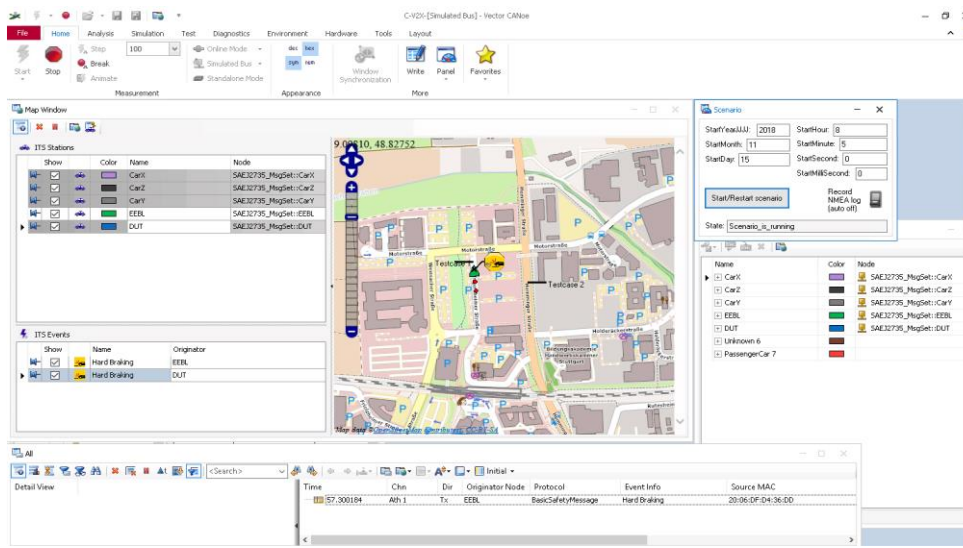

Figure 23: Running simulation
- Click the *Start Scenario* button and wait until the communication between CANoe and CMW500 is established (Figure 23). As soon as the DUT has received the satellite synchronization information, you can see the corresponding information sent by the DUT in CANo.